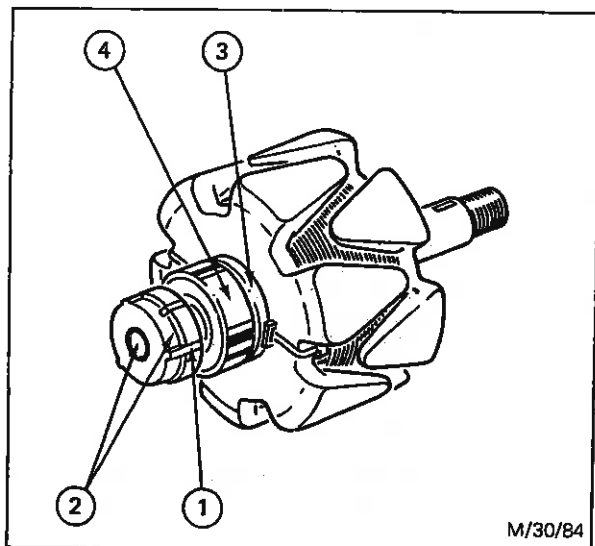

Fig. 34 - Slip Rings and Bearing Renewal - 17ACR'M' Alternator
Unsolder the field winding connections (1) from the slip rings (2) using a light weight soldering iron, e.g. 25W - see Fig. 34.